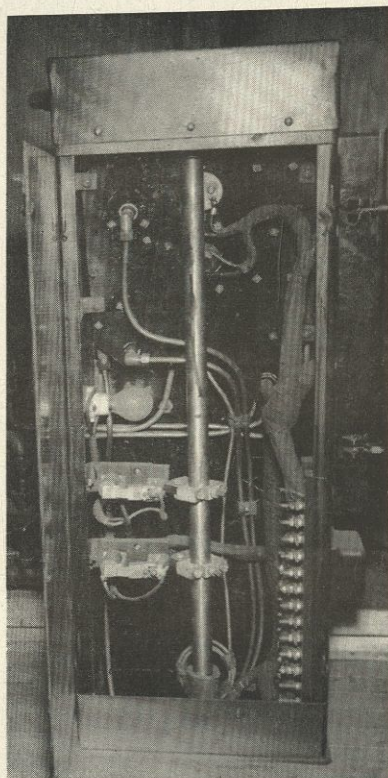
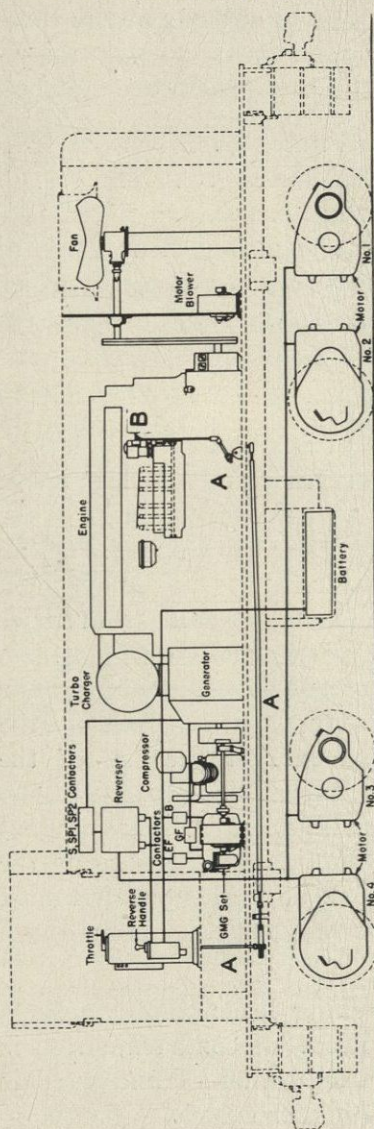

Fig. 3
Fig. 4
11. There are no notches on the throttle of the 660 horsepower or 1000 horsepower switcher except where the throttle is latched in idling position. Throttle movement away from the idling position is transmitted to two electrical contacts which are shown in Fig. 3 and to a system of levers known as the throttle linkage which is shown at *A, A, A*, in Fig. 4. The first half-inch movement completes a circuit at the lower of the two contact blocks shown in Fig. 3. The second movement completes a circuit at the upper contact block. Additional movement of the throttle affects only the mechanical throttle linkage.